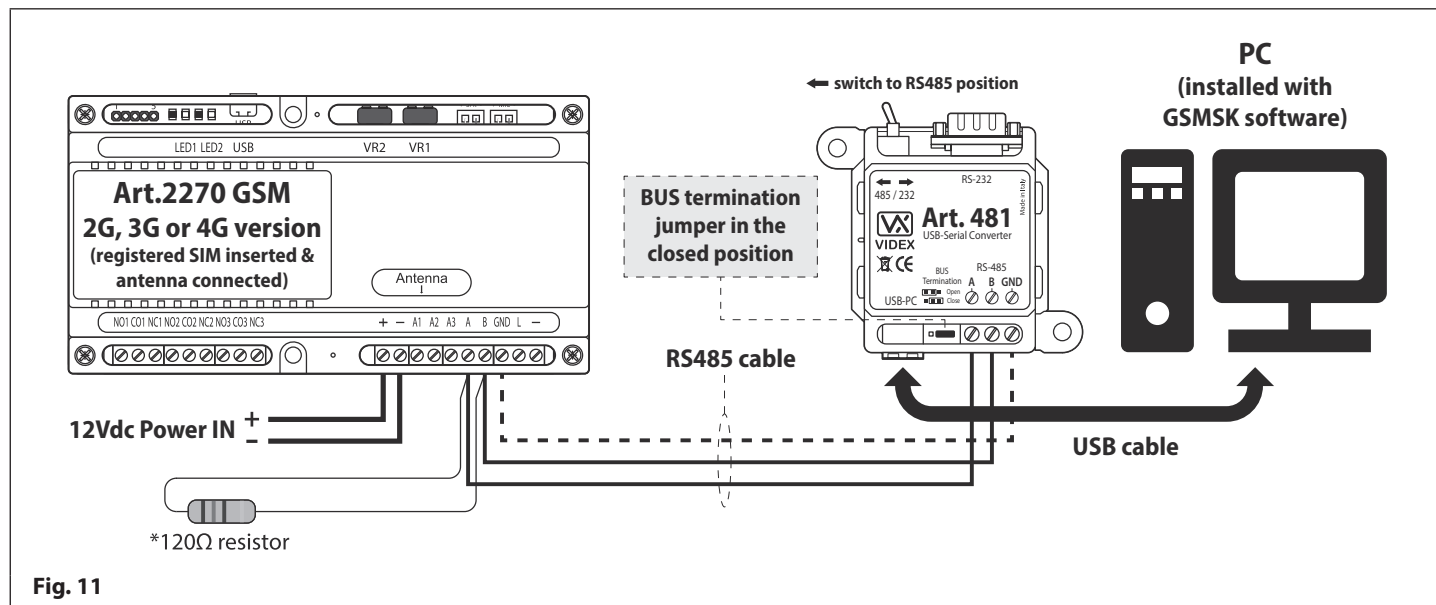

Fig. 11
The **Art.2270 GSM** module can also be connected using an RS485 bus connection via an RS485 to USB converter (**Art.481**) with a standard USB cable then connected directly to the PC, as shown in **Fig.11**.
*For end of line termination a 120Ω resistor must be fitted across the RS485 terminals A and B, as shown in **Fig.11** above, but only if the **Art.2270 GSM** module (2G, 3G or 4G) is the last device in line and over a great distance (500m max.). Over shorter distances (up to 100m) the 120Ω resistor is not required and the bus termination jumper on the **Art.481** can be set to the **OPEN** position.